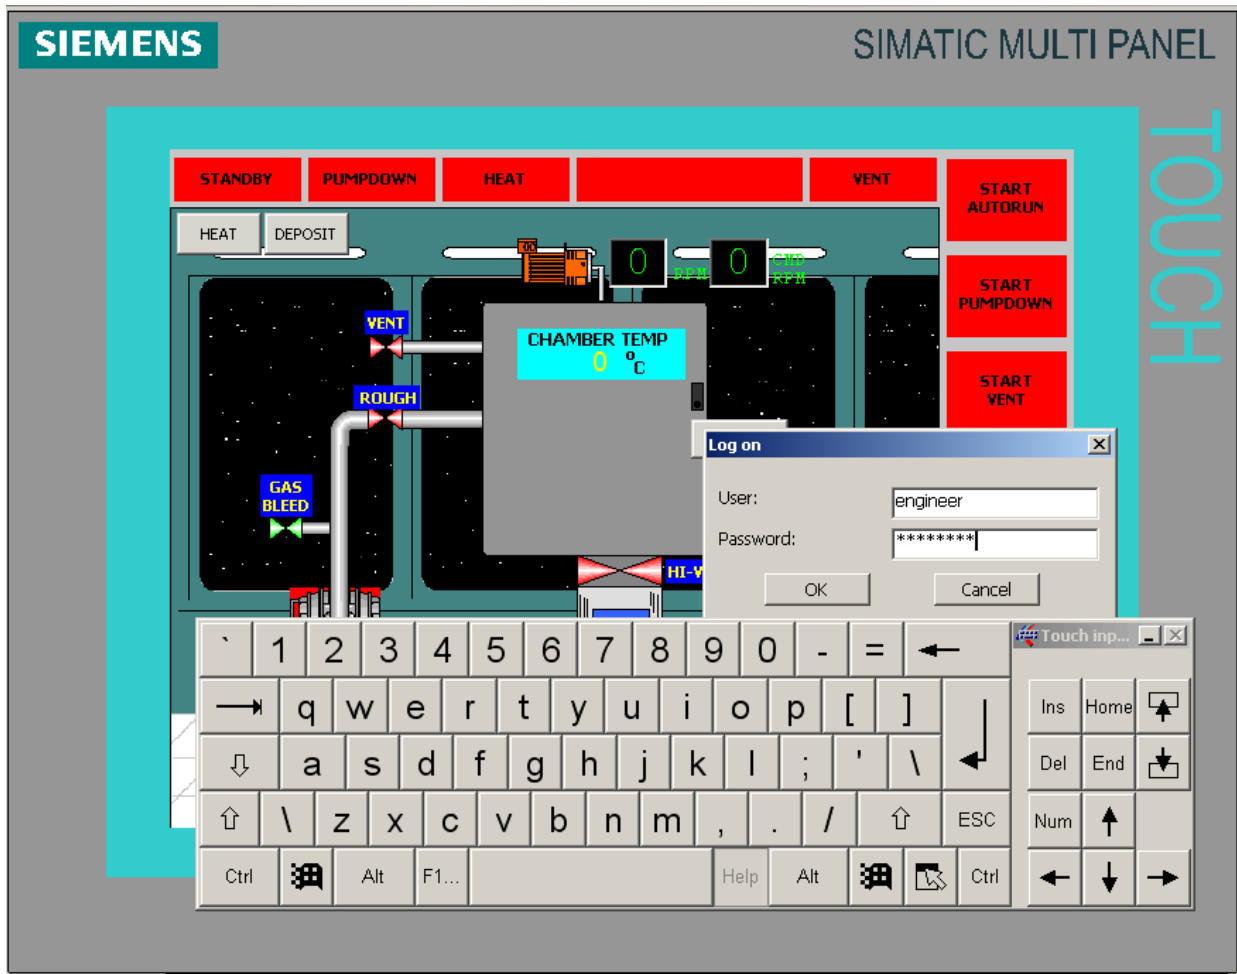

Figure 5-3 Log On Screen
2. The screen shown in Figure 5-3 will be displayed.